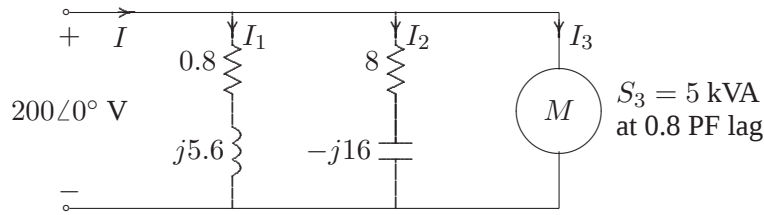

FIGURE 8
2.7. Two impedances, $Z_1 = 0.8 + j5.6 \, \Omega$ and $Z_2 = 8 - j16 \, \Omega$, and a single-phase motor are connected in parallel across a 200-V rms, 60-Hz supply as shown in Figure 8. The motor draws 5 kVA at 0.8 power factor lagging.